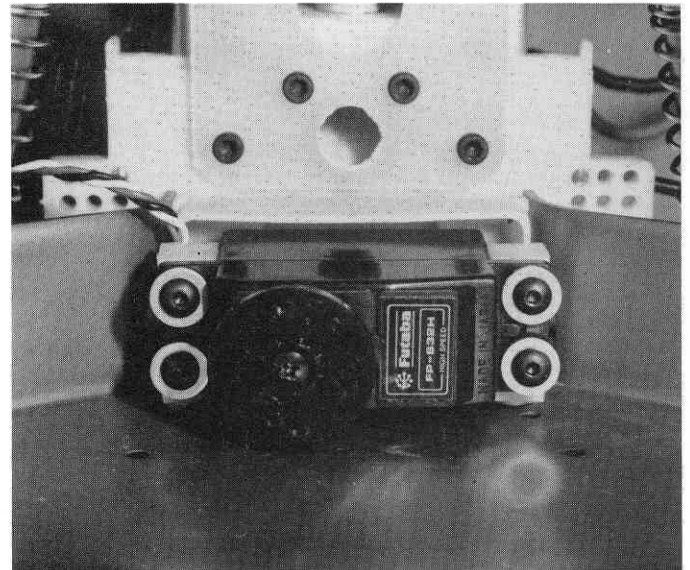

Fig. 125
□ **Fig. 125** If your servo comes with a small round servo horn this will be the best choice for this installation. If not, you will have to modify, as necessary, the servo horn that comes with your radio so the servo horn can rotate freely thru its arc. Install the round servo horn on your servo. Install the servo and blocks to the chassis on the "A" mounting holes, as shown, using the same two #6292 4/40 x 3/8" FHSS fasteners we used earlier. It is important that the servo mount high enough to allow the servo wheel to clear the chassis by about 1/8" (3.1mm). Add washers under the mounts if necessary to give the required clearance.